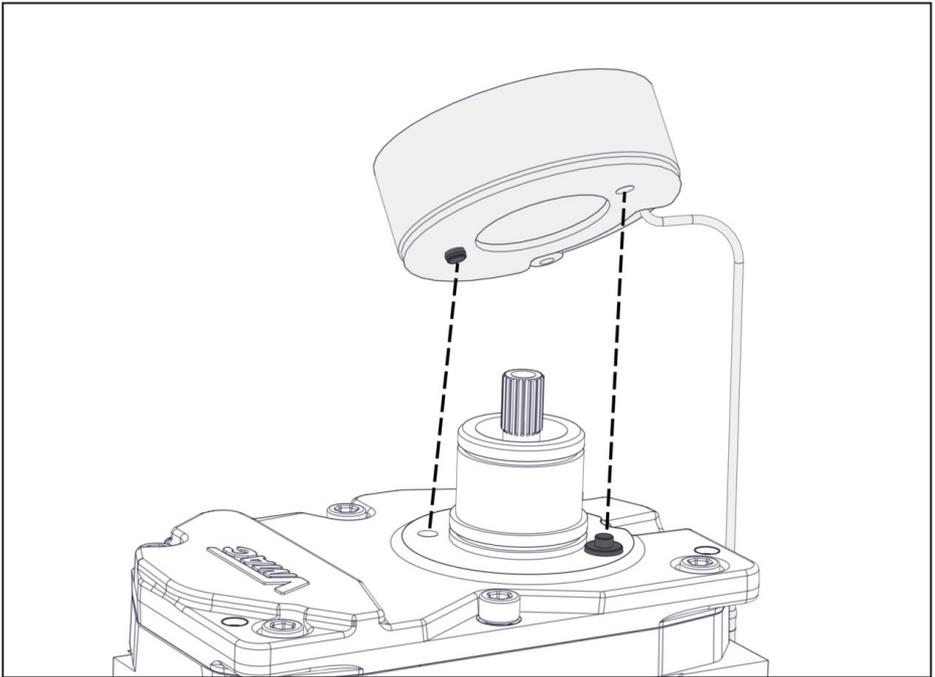

Figure 8 — Install field coil
- Install the new field coil. Ensure the alignment pins on the field coil and the front cover fully engage in their respective slots. The field coil should not have any rotational movement once it is installed (Figure 8).